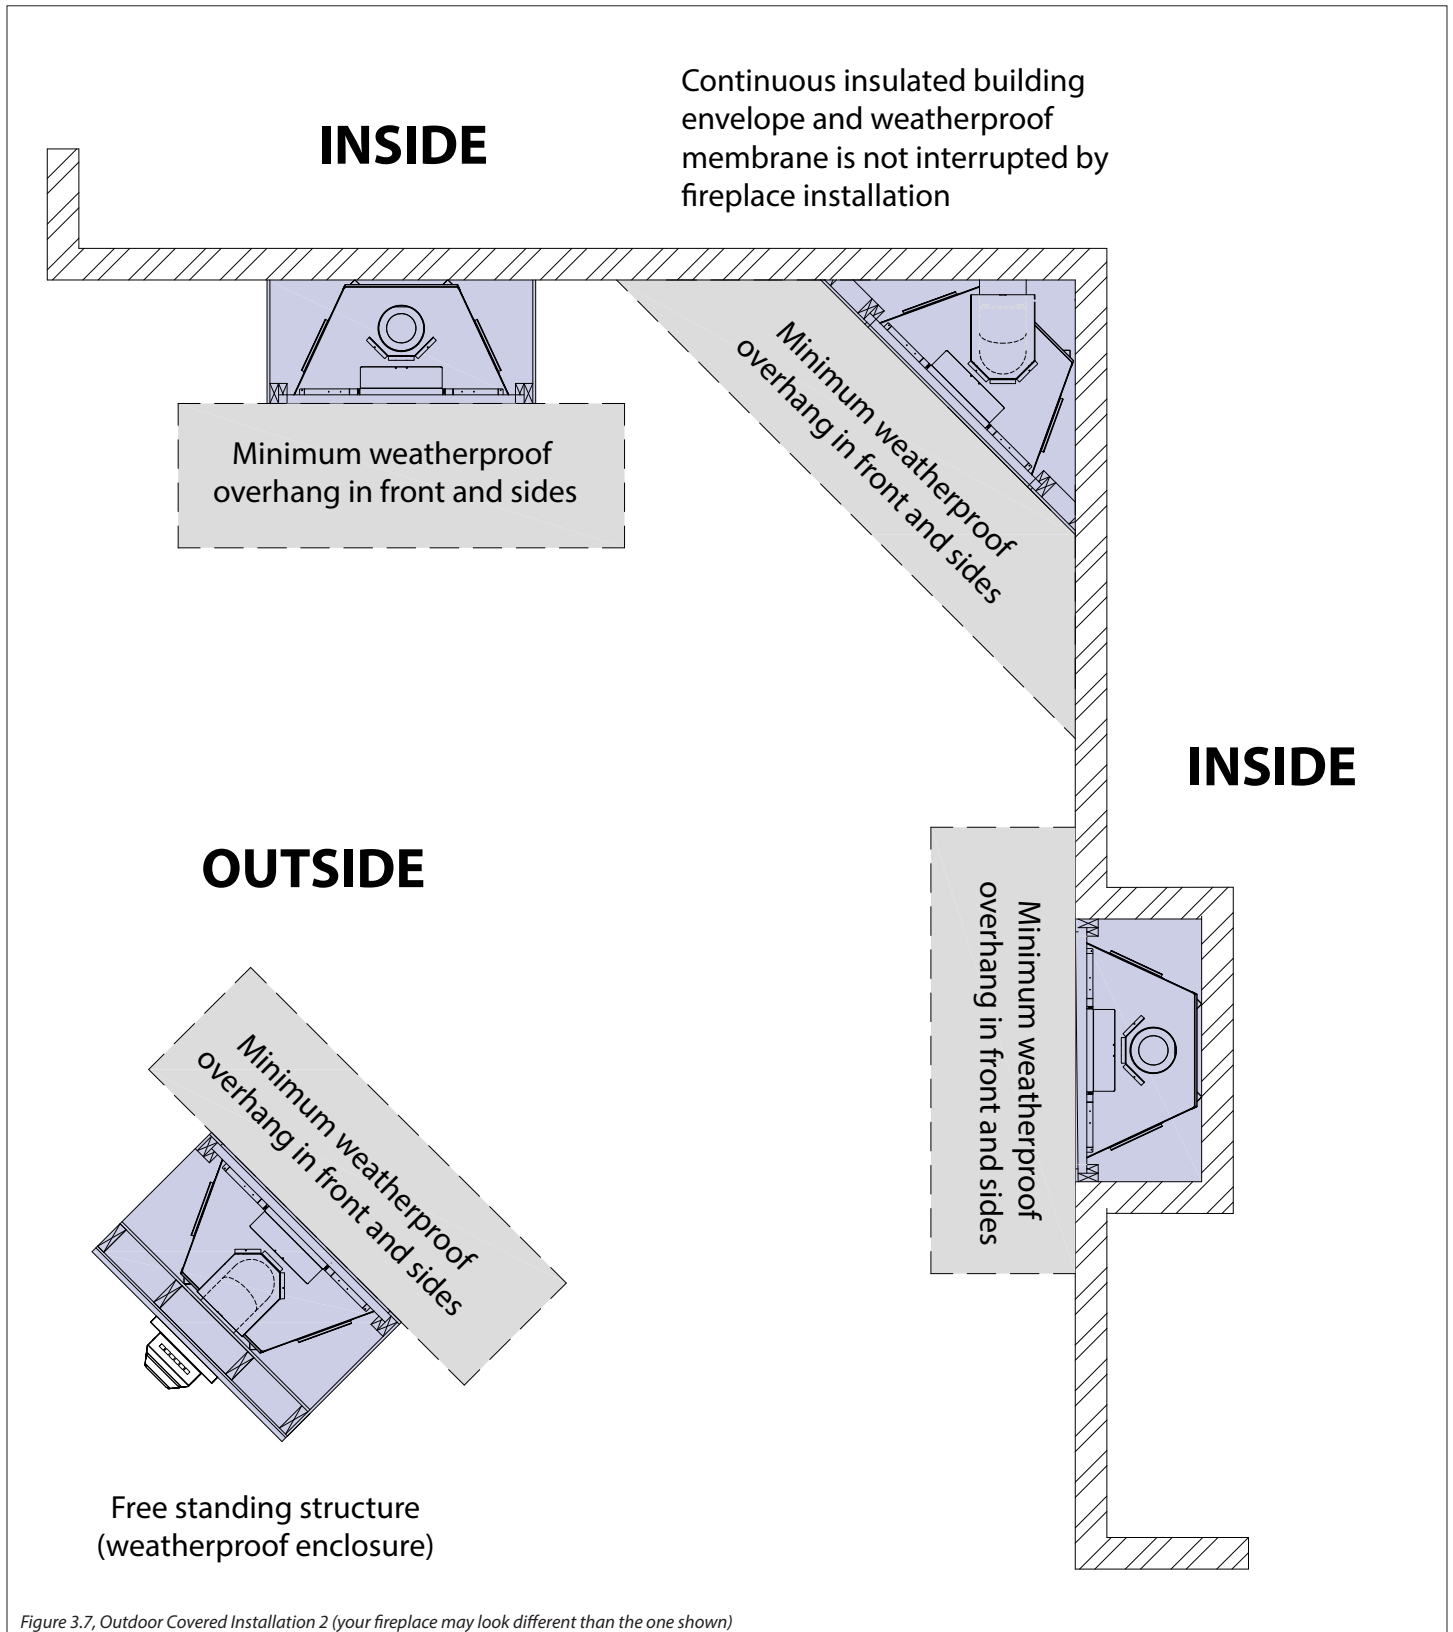

Figure 3.7, Outdoor Covered Installation 2 (your fireplace may look different than the one shown)
- The continuous insulated building envelope and weatherproof membrane are not to be interrupted by fireplace installation. See Figure 3.7 on the following page.